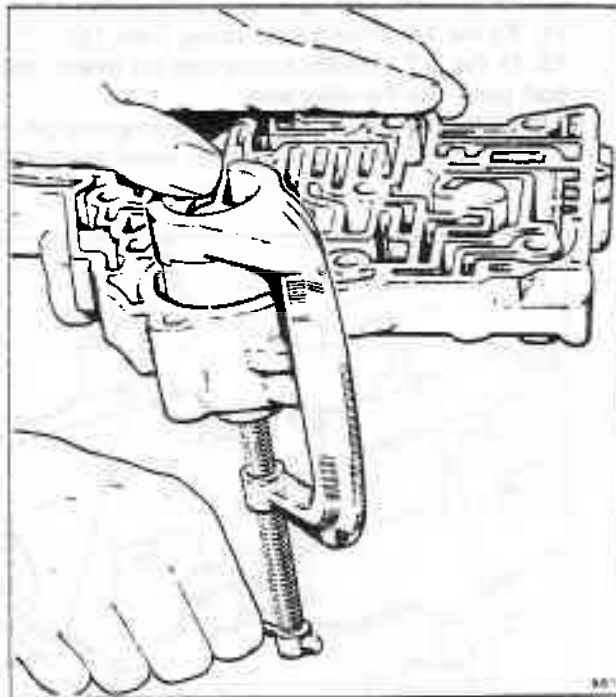

Fig. T12-14 Fitting the front accumulator piston and spring
3. Fit the valve body accumulator installing tool (J-21885). Align the piston and spring with the bore then compress the spring and piston (see fig. T12-14).